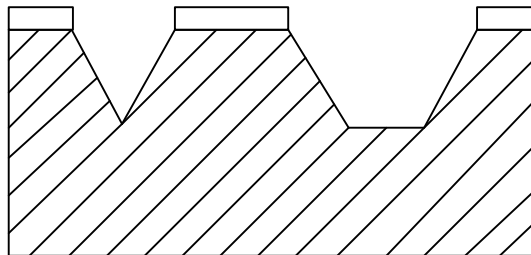

Figure 1-1 V slot of (100) plane and (111) plane
In Si wet etching, the etching speed appears to be different with different crystal planes. Specifically speaking, (111) plane density is larger than the (100) plane, so the etching speed of (111) plane will be lower than that of (100) plane. In application, if the Si on (100) plane is covered by SiO_2 with certain pattern, the directional etchant will generate an accurate V slot with border being (111) plane and angle being 54.7 degree with (100) plane, as showed in Figure 1-1.